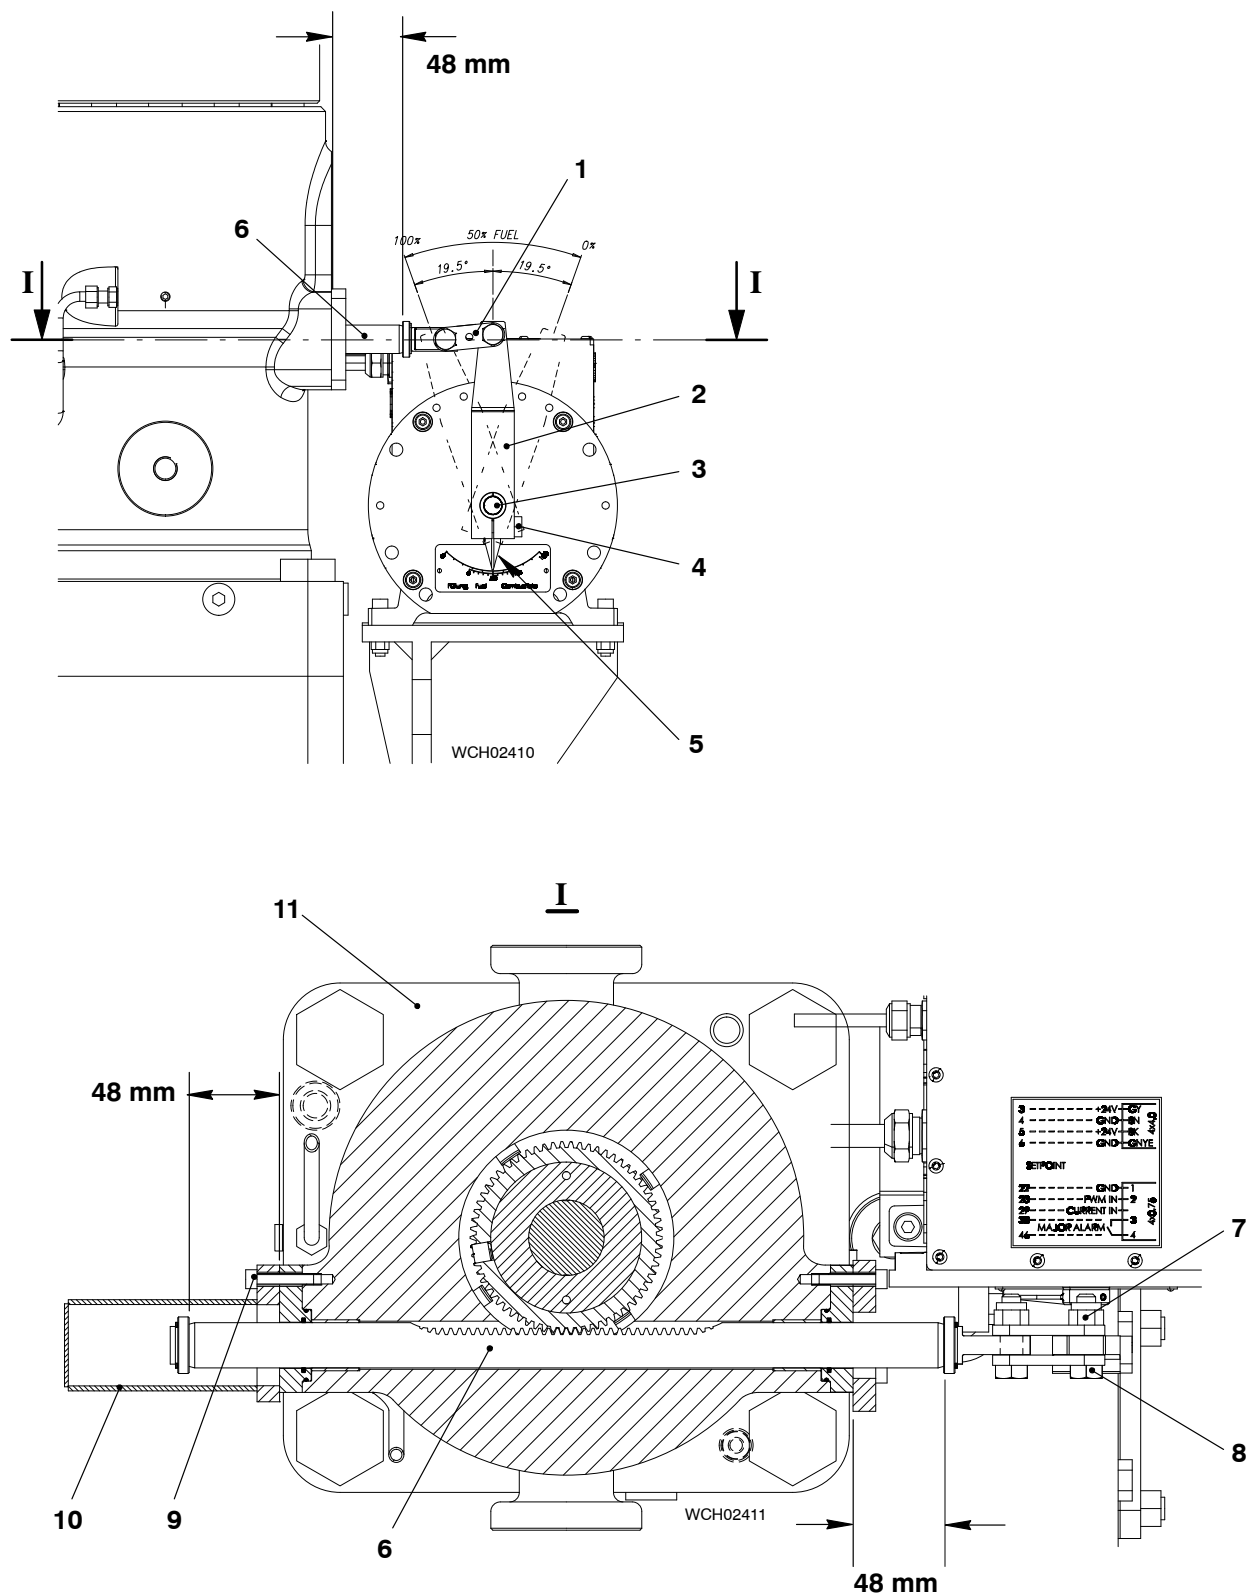

Fig. 2
- 2) Make sure that the connecting element (1, Fig 2) is disconnected from the lever (2).
- 3) Move the shaft (3) to get the indicator (5) to the 50% fuel position.
- 4) Remove the six screws (9), then remove the cover (10).
- 5) Move the toothed rack (6) to get a distance of 48 mm at each end.
- 6) Attach the cover (10) to the actuator (11) with the six screws (9).
- 7) Put the lever (2) in position on the shaft (3). Make sure that the center-line of the lever aligns with the 50% fuel indication on the actuator (11).
- 8) Attach the lever (2) to the connecting element (1) with the screw (8) and the self-locking nut (7).
- 9) Tighten the screw (4) on the shaft (3).